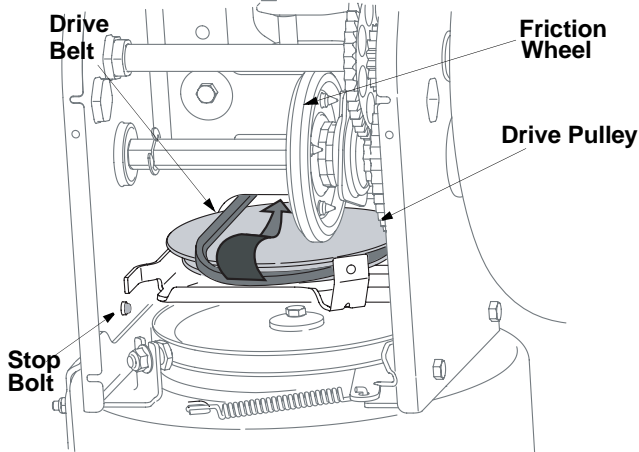

Figure 27
- Back out the stop bolt to create sufficient gap between the friction wheel disc and the drive pulley. Pull the drive belt from around the drive pulley and clear it off the friction wheel disc. See Figure 27.